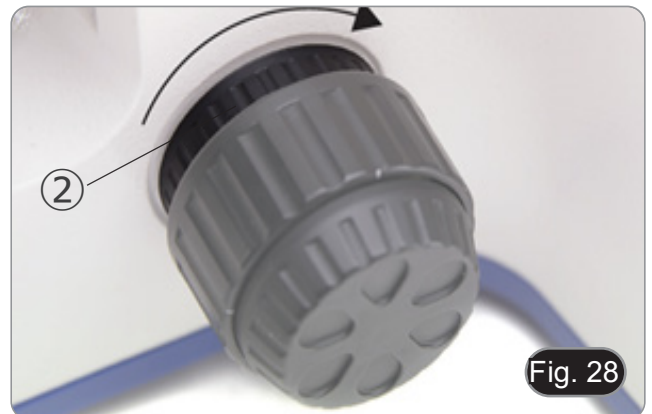

Fig. 28
- To modify the tension according to personal's needs, rotate the ring ②. (Fig. 28)